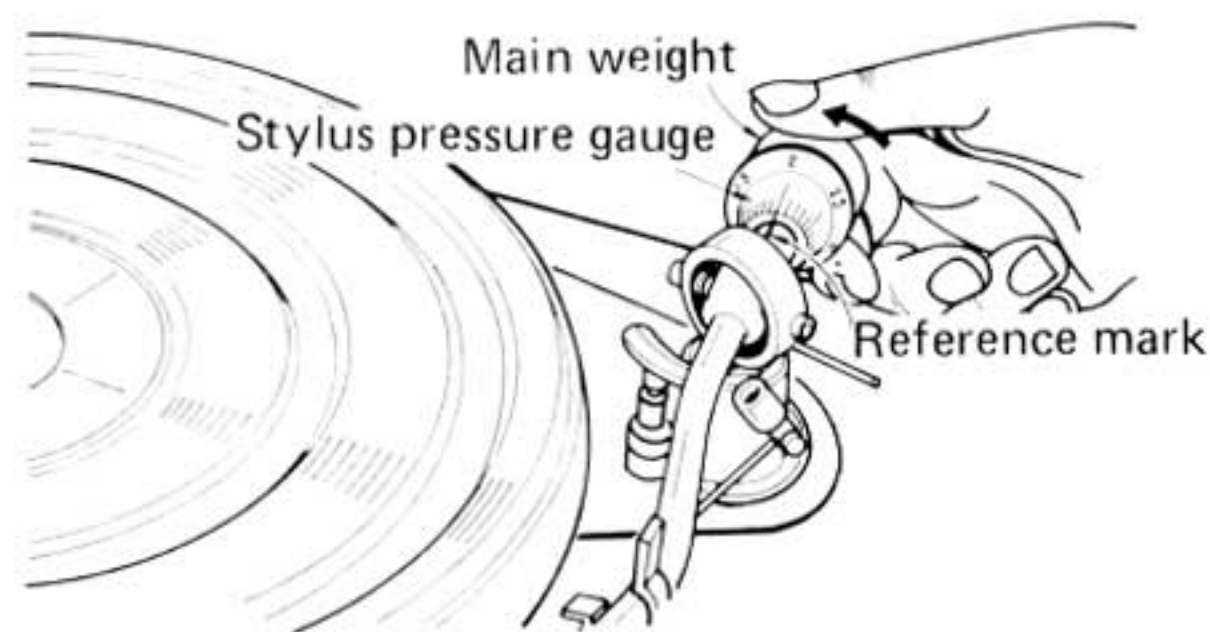

Fig. 6
4. Each graduation on the weight corresponds to a stylus pressure of 0.1g. Turn the weight and the scale together till the scale shows the stylus pressure recommended by the cartridge manufacture. (Fig. 6).